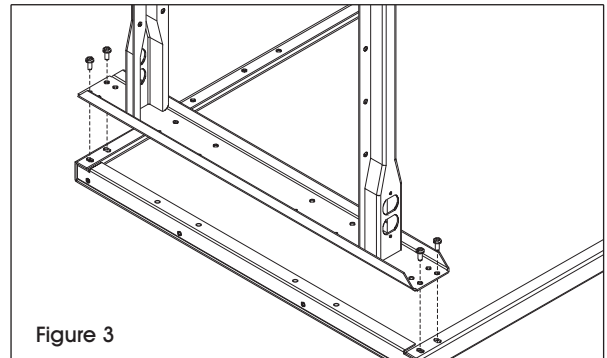

Figure 3
2. Align tabletop, leg and channel holes. Secure with four bolts. Four weld nuts are provided on each channel. (See Figure 3)